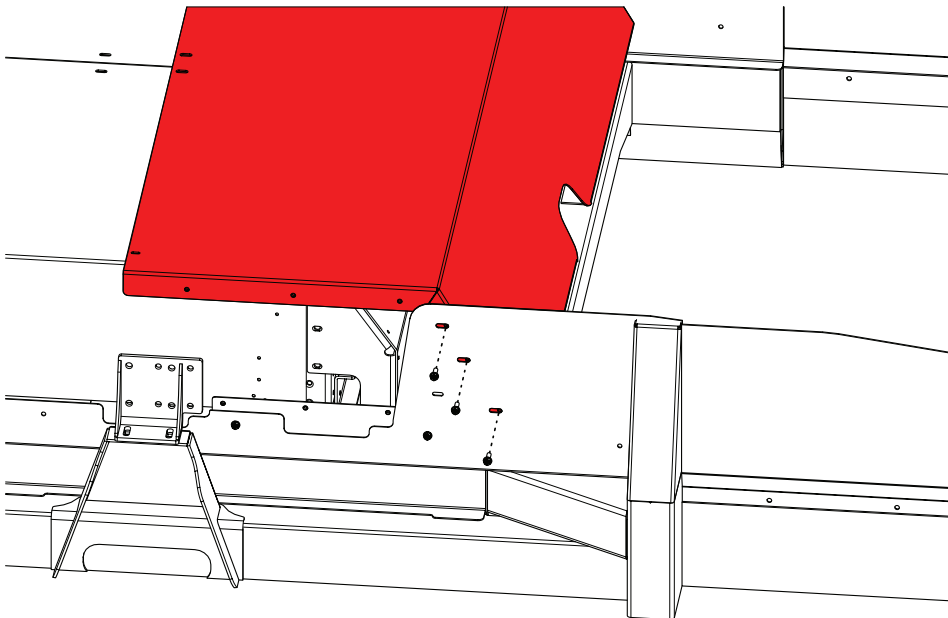

Figure 4
10. Install bolts in the three diagonal bolt slots on both sides to secure the refuse deflector weldment cover piece to the windguards (Figure 4).